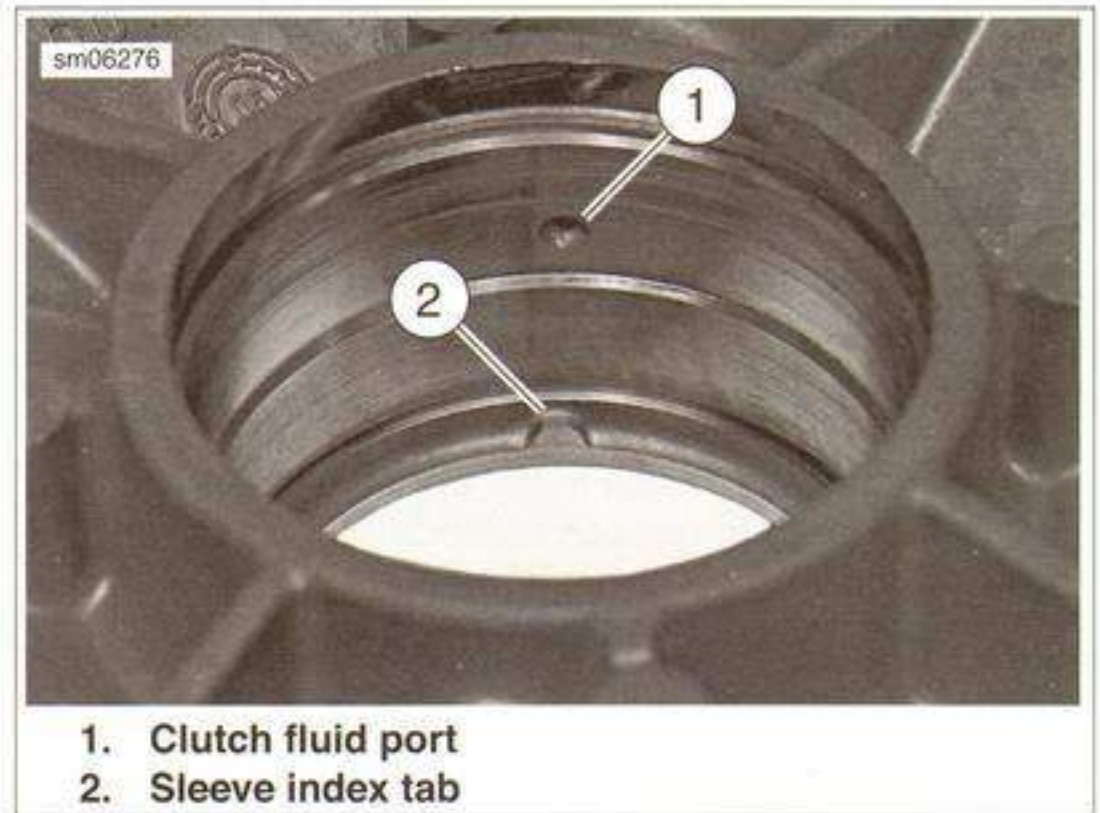

Figure 6-25. Actuator Sleeve Bore
3. See Figure 6-25. Inspect pressure relief hole for obstruction.
4. Align piston sleeve notch (2) with indexing tab (3) on secondary actuator cover and install sleeve into cover using steady pressure.